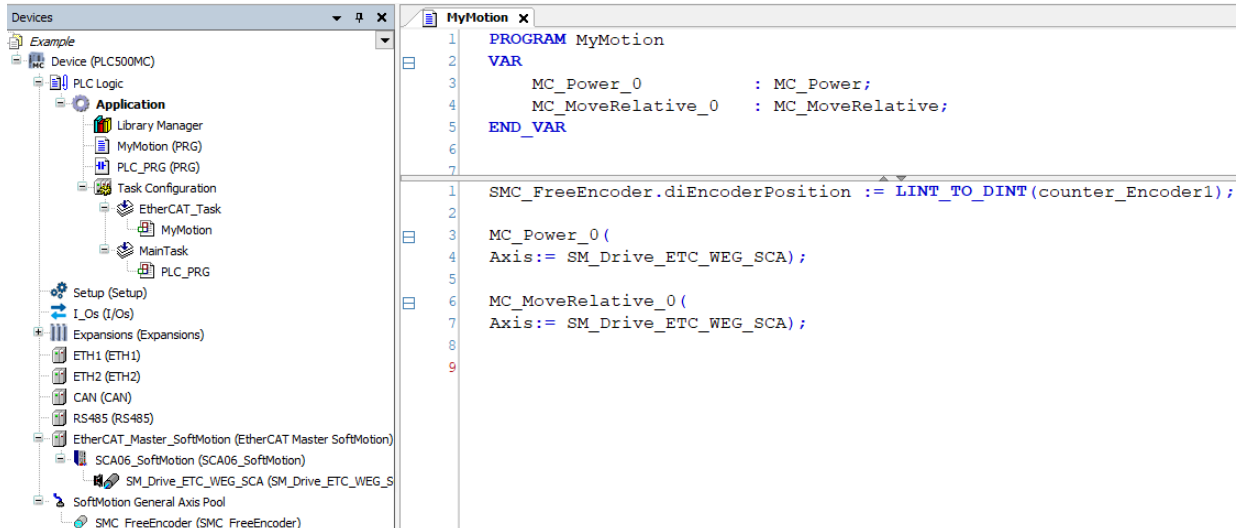

Figure 5.11: Adding the command to the POU associated with the motion.
- Open the **MyMotion** POU and add the command to assign the encoder value to the **SMC_FreeEncoder**, as shown in Figure 5.11 drive.